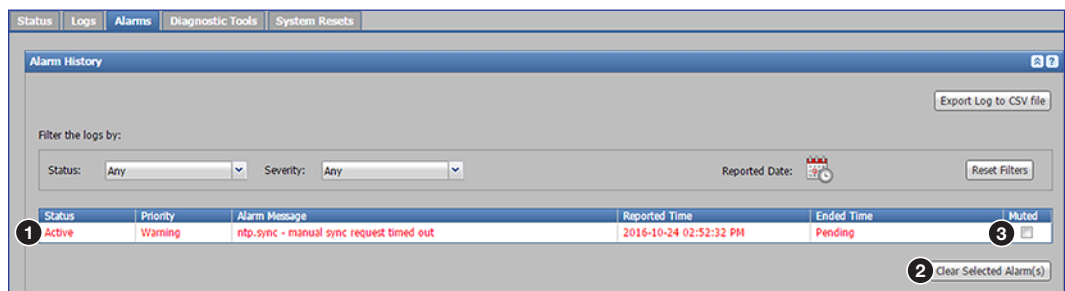

Figure 66. Troubleshooting, Alarms>Alarm History
- Active, unresolved alarms are displayed as red text (see figure 66, ❶).
- To clear or remove an alarm, click the row it is listed in and click **Clear Selected Alarm(s)** (❷).
- To mute an alarm, so that it does not appear in the alarm list again the next time it is triggered, select the **Muted** checkbox (❸) for that alarm.